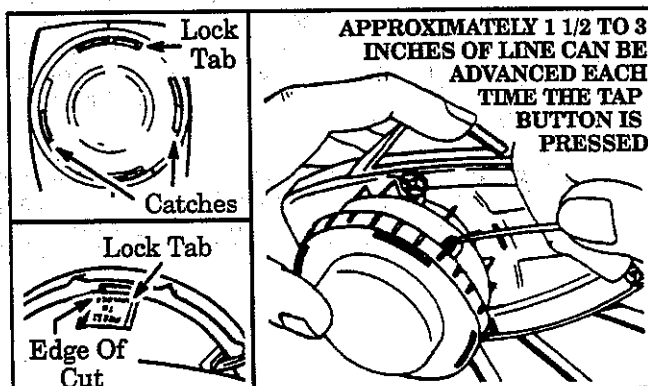

Figure 18
- Reinstall the tap button and lock ring. Turn the lock ring clockwise and fasten the lock tabs in all four catches on the hub. Figure 18.
NOTE: Check to be sure the lock ring is properly installed by attempting to turn the ring counterclockwise and pulling on it. Make sure the catches and lock tab appear from the bottom of the head as shown in Figure 18 (insets). Be sure the lock tab hits the edge of the cut-out when you turn the lock ring counterclockwise.
- Properly reinstall if the lock ring comes off or if the lock tab or catches do not look like those shown in Figure 18.
- Pull line to change the spool from the locked position to the operating position. Figure 18.
NOTE: Approximately 1-1/2" to 3" of line can be advanced each time the tap button is pressed. Figure 18.